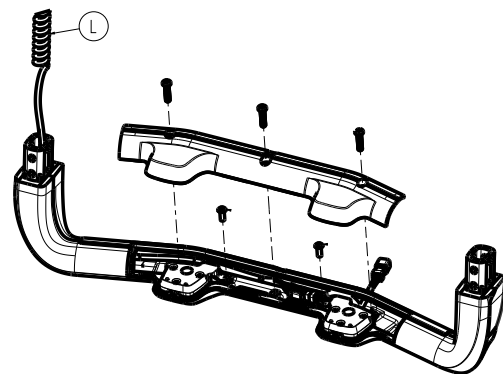

Figure 33 –
15. Plug the grab bar UI coil cable (L) into the backrest (Figure 33).